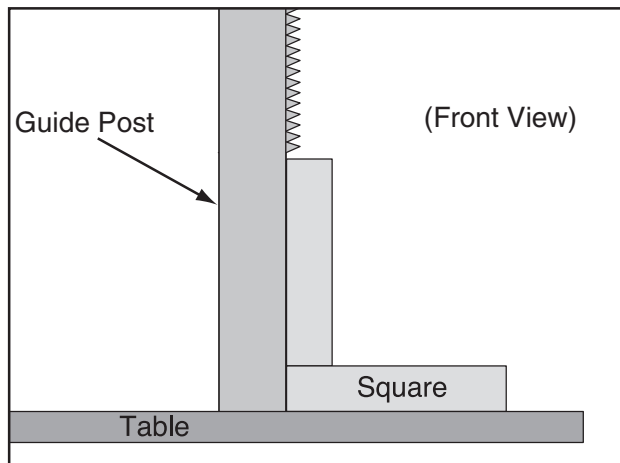

Figure 80. Example of checking guide post squareness.
6. Place a machinist's square on the table next to the right hand side of the guide post, as shown in **Figure 80**.